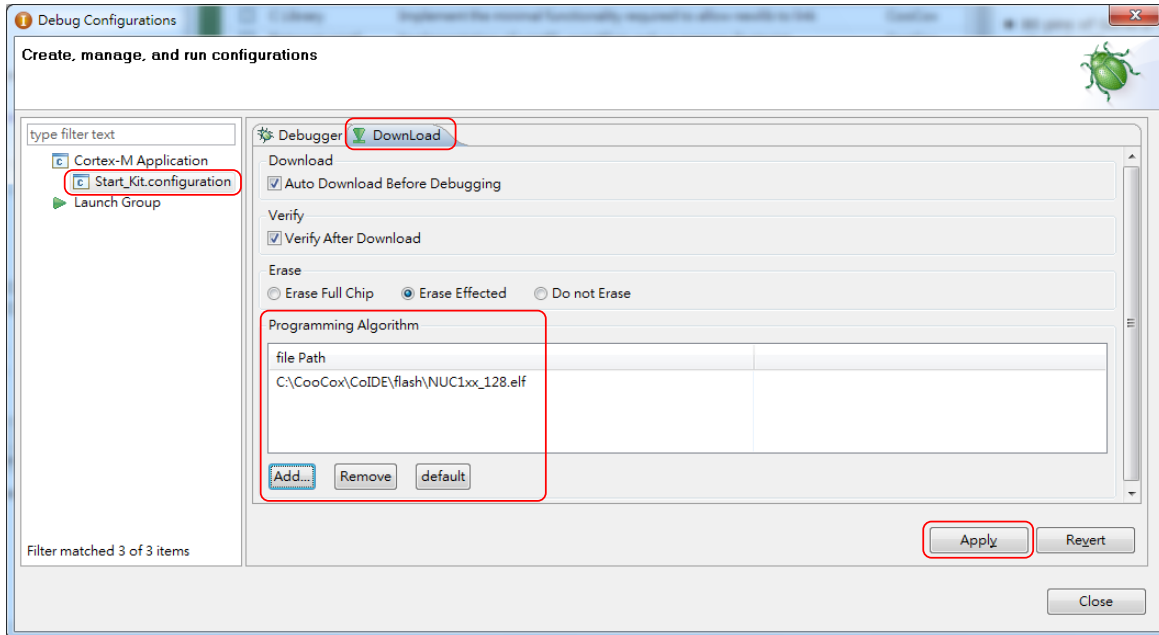

Figure 4-21 CooCox CoIDE Programming Settings
Step 4: In the **Download** tab of the *Debug Configurations* form (through invoking **Debug** → **Debug Configurations**), select the **Auto Download Before Debugging** or **Verify After Download** option to proceed with a specific programming, and set the Programming Algorithm path as "**C:\CooCox\CoIDE\flash\NUC1xx_128.elf**", as shown in Figure 4-21.
Step 6: At last, click **Apply** to save the settings, as shown in Figure 4-21.